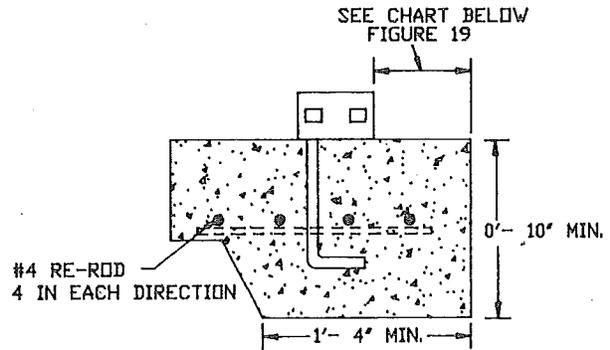

FIGURE 45
1. Should your home be placed on a full concrete slab as shown in Figure 16, the ground anchors may be replaced with anchor bolts imbedded in the concrete slab as shown. The location of the anchor bolt in relation to the longitudinal I-beams of the frame will be the same as for the ground anchors (see Figure 45).